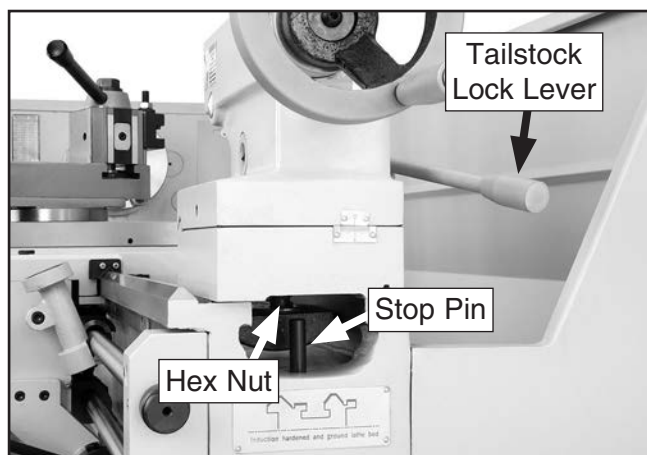

Figure 98. Tailstock locking hex nut and plate.
1. Unthread the stop pin (see **Figure 98**), and carefully slide the tailstock from the lathe.